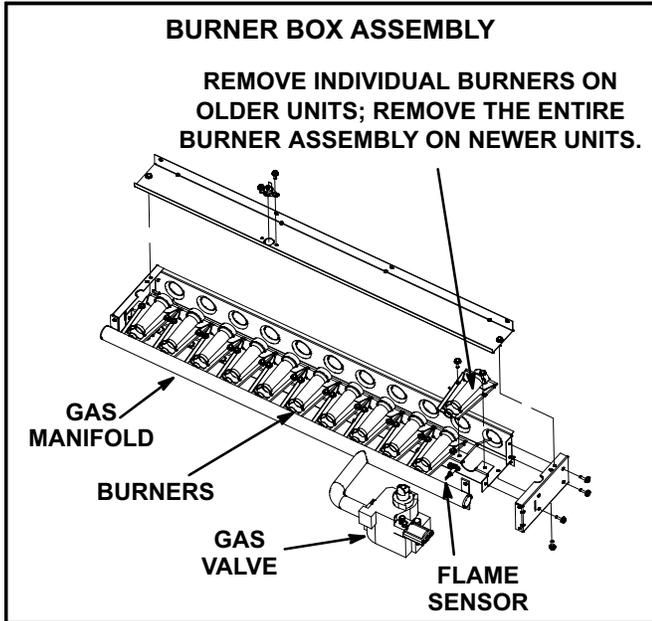

FIGURE 20
- 3- Remove screws securing burners to burner support and lift the individual burners or entire burner assembly from the orifices. See figure 20. Clean as necessary.